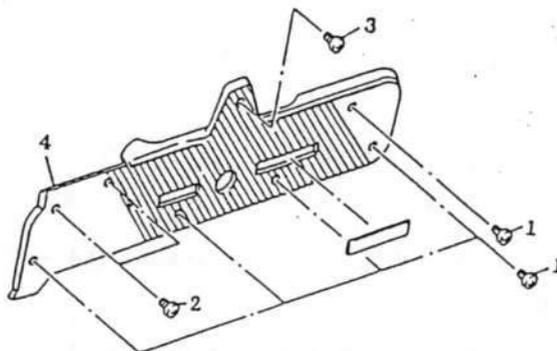

Fig.39
- (1) Put the FRONT COVER (No.4) to the body and tighten four SCREWS (No.2,3).
- (2) Press fit the LENS LOCK BUTTON (No.1).
11. Bottom cover (Fig.39)